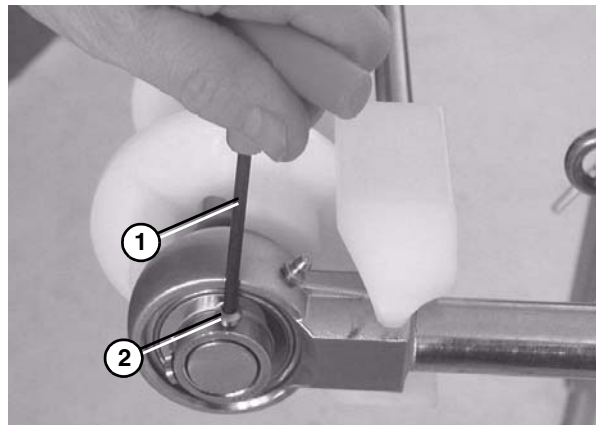

Figure 59
4. Use a hex wrench (Figure 59, item 1) to loosen the bearing shaft assembly fasteners (Figure 59, item 2).